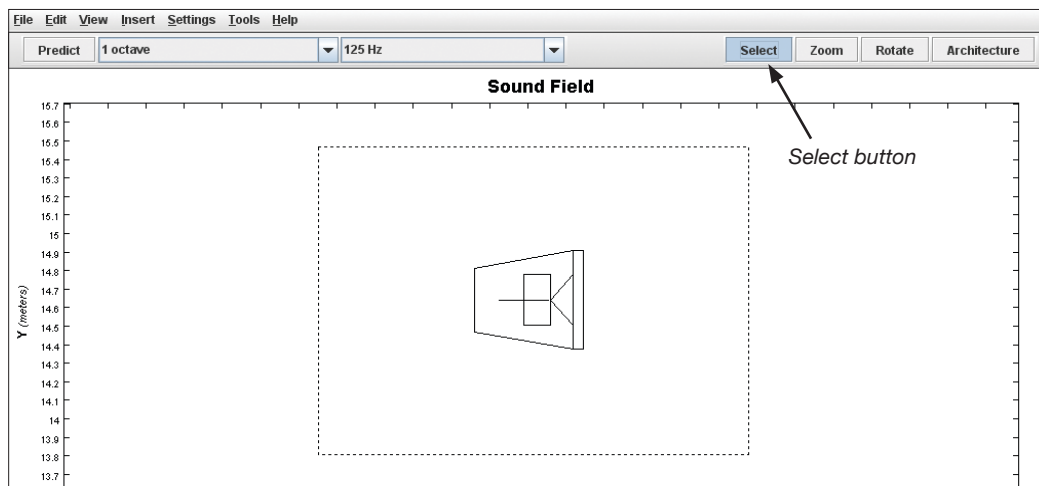

Figure 9. Selecting objects using a selection rectangle
4. Click and hold the left mouse button, and drag the selection rectangle around the object(s) to be selected (Figure 9).